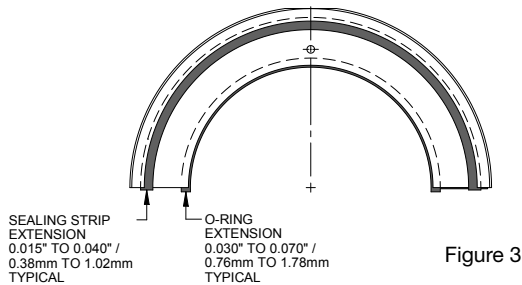

Figure 3
**NOTE:** Ensure the ends of the sealing strip and shaft O-Ring are properly extended as shown in Figure 3. Also ensure even extension on both ends. They can be pushed in or out to adjust if necessary.